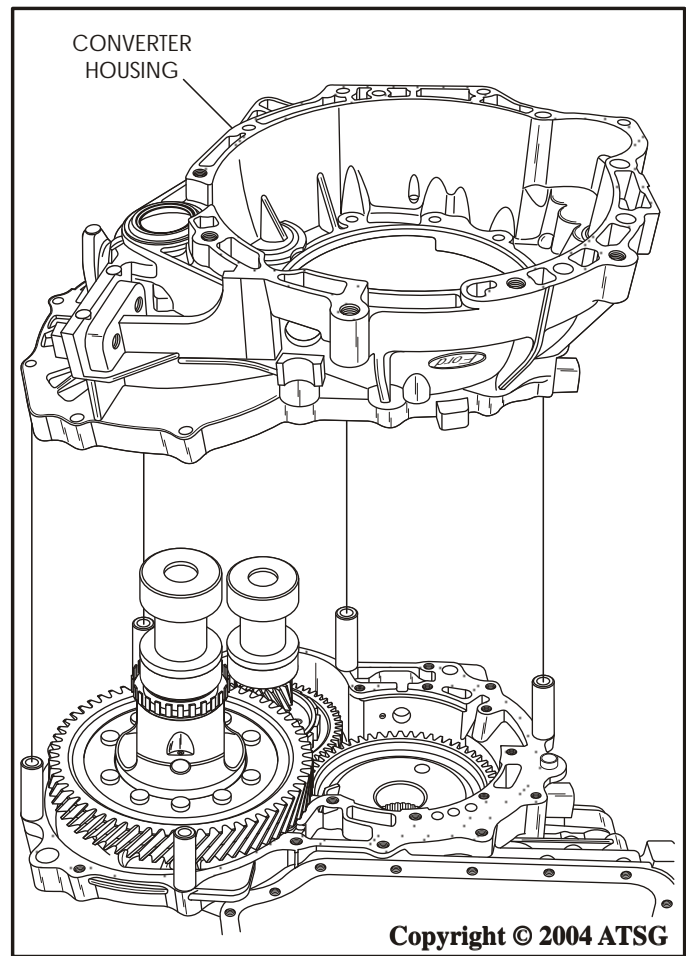

Figure 139
56. Place the converter housing carefully over the transaxle case, as shown in Figure 139.